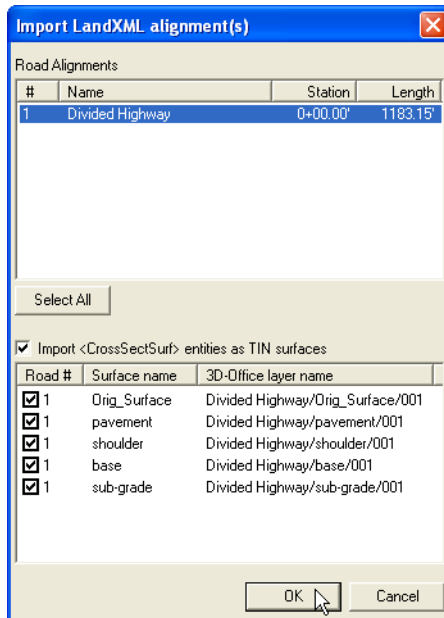

Figure 6-4. Select LandXML Alignment(s)
3. On the **Import LandXML alignment(s)** dialog box, select the desired alignment(s) (Figure 6-4 on page 6-4).